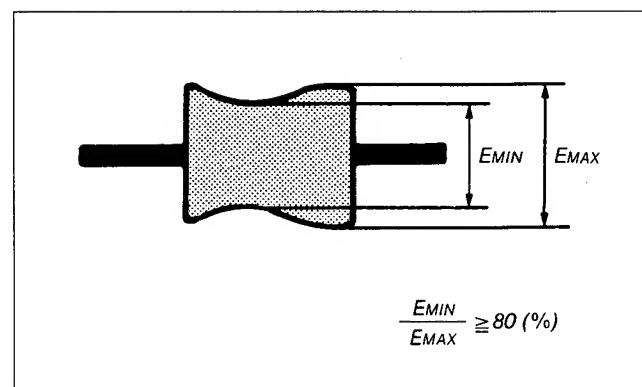

Fig. 8-64.
- 2) When this is done, confirm that an amplitude's minimum value ( $E_{MIN}$ ) is more than 80% of its maximum value ( $E_{MAX}$ ). (Refer to Fig. 8-64.)